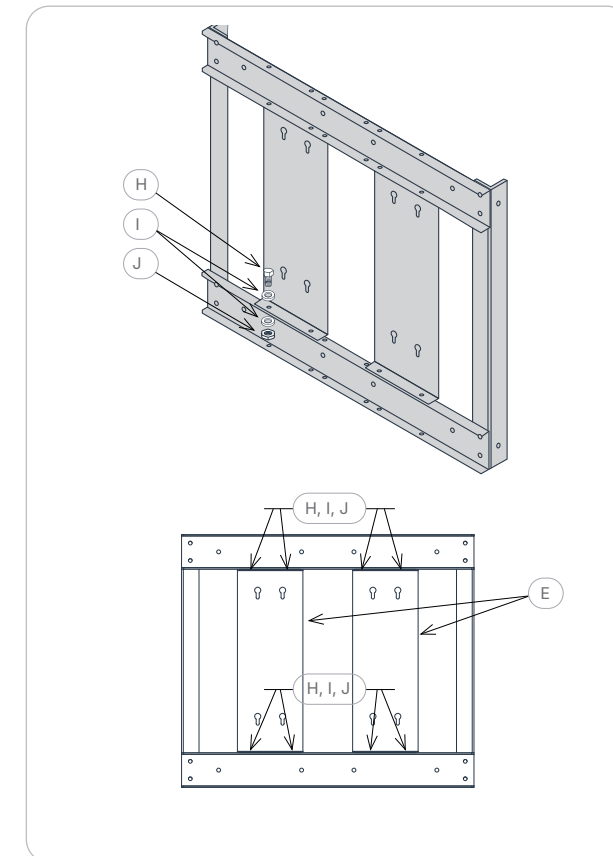

Figure 4. Installation of Assy Bracket for FTP-3XX and customer box.
Assemble the **Assy Bracket (E)** as shown in **Figure 4** using **(H)**, **(I)**, and **(J)**: